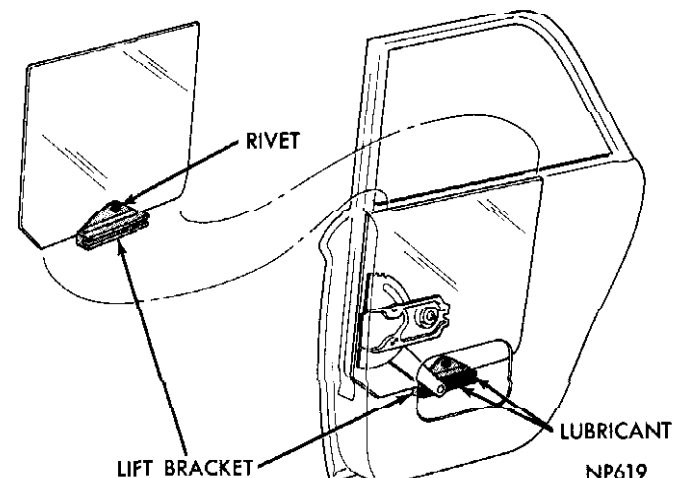

Fig. 25—Rear Door Glass Replacement—Sedan
- (1) Loosen window track adjusting nuts (Fig. 25) and remove glass from run channels.
- (2) Remove regulator arm from lift bracket channel.
- (3) Remove glass from door.
- (4) Remove lift bracket from glass.